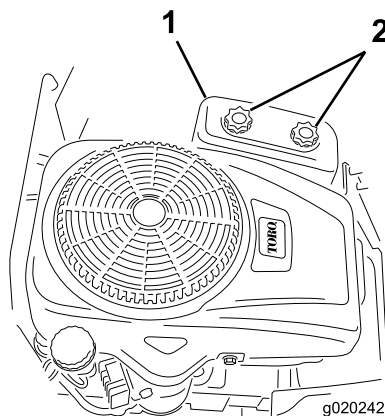

Figure 24
4. Remove the air-cleaner cover by unscrewing the 2 knobs (Figure 24).
3. Install the air-cleaner cover, and tighten the 2 knobs (Figure 24).